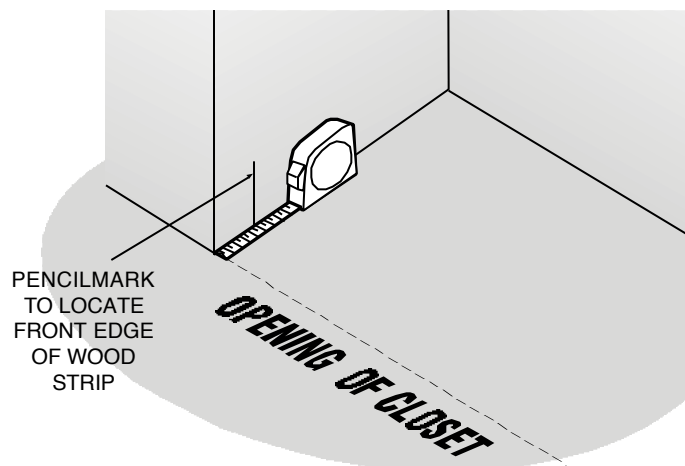

Figure 2
- C. Find the correct offset measurement using the **Offset Measuring Table** on page 3 (**B Measurement**) for your particular installation. From the front edge of closet opening inward, measure using dimension from table and make a pencil mark on wall. Do this on both walls, i.e., right and left walls (See Figure 2).